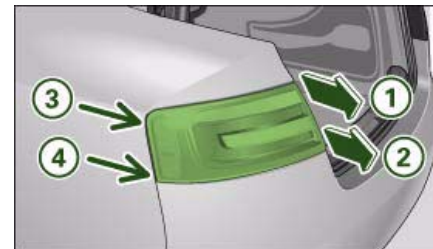

Fig. 274 Removing rear light from side panel
- Gradually ease the light housing out of the rubber mountings (positions ⇒ *page 284*, fig. 274 ③ and ④) by pulling alternately in direction of arrows ① and ②. If necessary use the tool for changing bulbs from your vehicle's toolkit to carefully apply some pressure between positions ③ and ④ ⇒ ⚠.